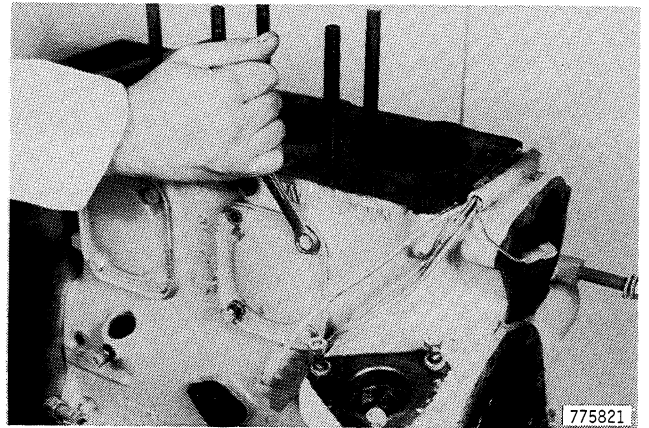

Figure 75
- 10. Remove the cap screws from the lifter cover plates, Figure 75.